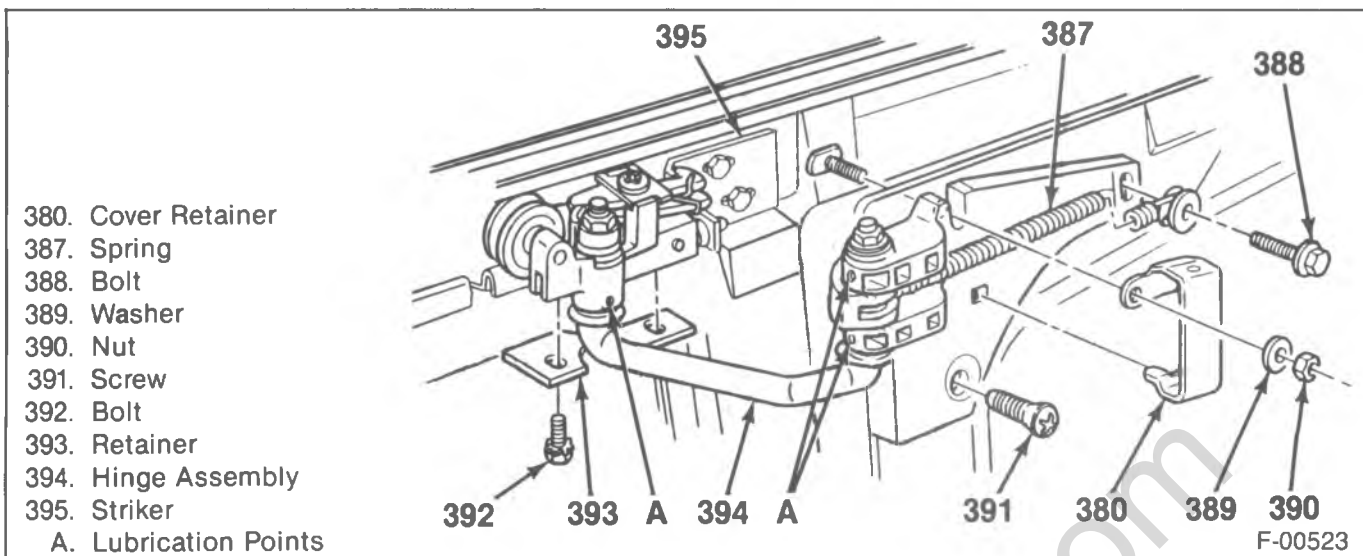

Figure 88—Upper Rear Hinge Components
↔ Remove or Disconnect (Figure 88)
↔ Install or Connect (Figure 88)
1. The rear edge of the door to obtain a gap of $4.5 \text{ mm} \pm 0.5 \text{ mm}$ ($0.18\text{-inch} \pm 0.02\text{-inch}$) between the top of the door and the roof side rail. This adjustment should provide a gap of $6 \text{ mm} \pm 0.5 \text{ mm}$ ($0.25\text{-inch} \pm 0.02\text{-inch}$) between the bottom of the door and the rocker panel. To accomplish this adjustment, loosen the upper rear hinge to door bolts (figure 88), and align the rear edge of the door up or down. Next, tighten the upper rear hinge to door bolts (figure 88).
- Loosen the upper rear hinge striker (figure 88).
- Tighten the upper rear hinge striker (figure 88).